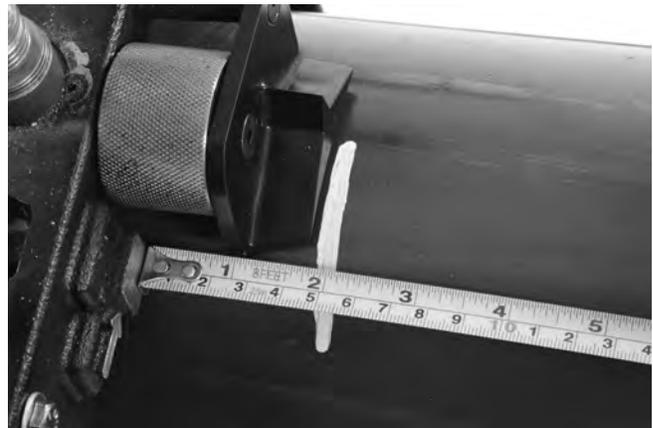

Figure 10 – Aligning Cut Location
- Align the Alignment pad 2" (50 mm) from the desired cut location (see Figure 10). Cut must be at least 1" (25mm) from a pipe end. This prevents the cut off piece from lodging in the guard and damaging the blade. Do not use saw to face the end of the pipe.